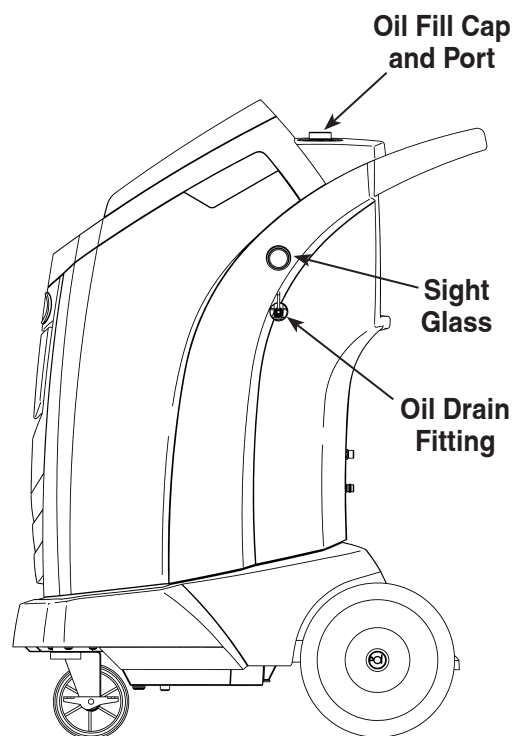

Figure 19
3. After the compressor stops, **slowly** open the oil fill cap to verify there is no pressure in the machine. Then carefully remove the cap. See Figure 19.